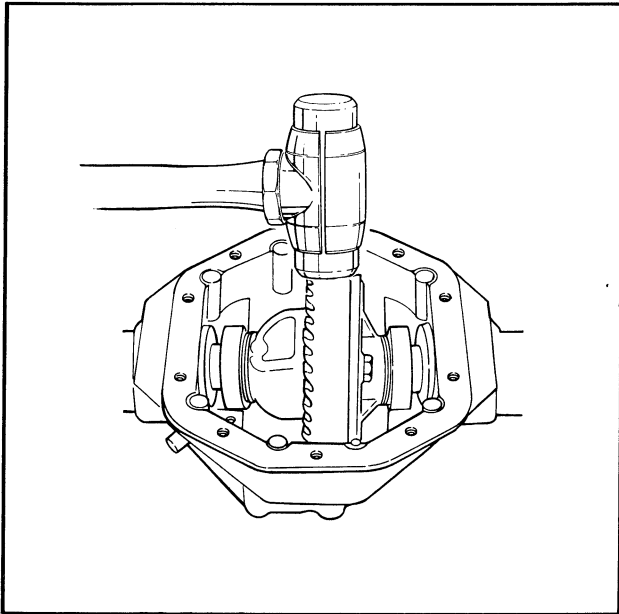

Figure 32 – Installing Differential Assembly
- m. Install ring gear carrier assembly (6) along with bearing cups (7) into housing aligning ring and pinion gears to avoid nicking teeth. Tap ring gear lightly with soft hammer to seat carrier assembly, in housing. See Figure 32.